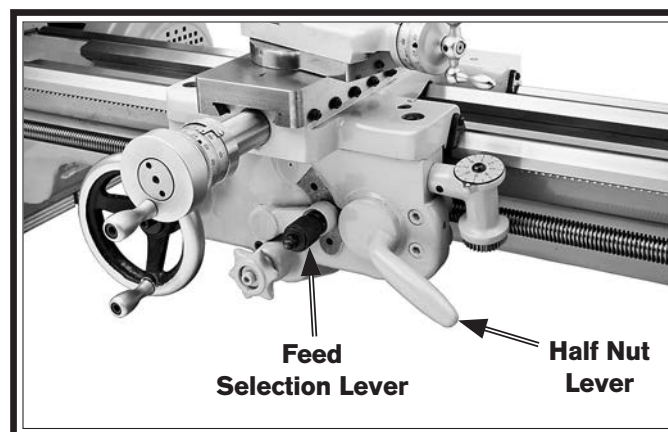

Figure 17. Carriage controls.
3. To prevent unexpected movement when the lathe is turned **ON**, make sure the carriage components are disengaged from the longitudinal leadscrew by pressing down on the half nut lever and moving the feed selection lever to the neutral (middle) position (see **Figure 17**).